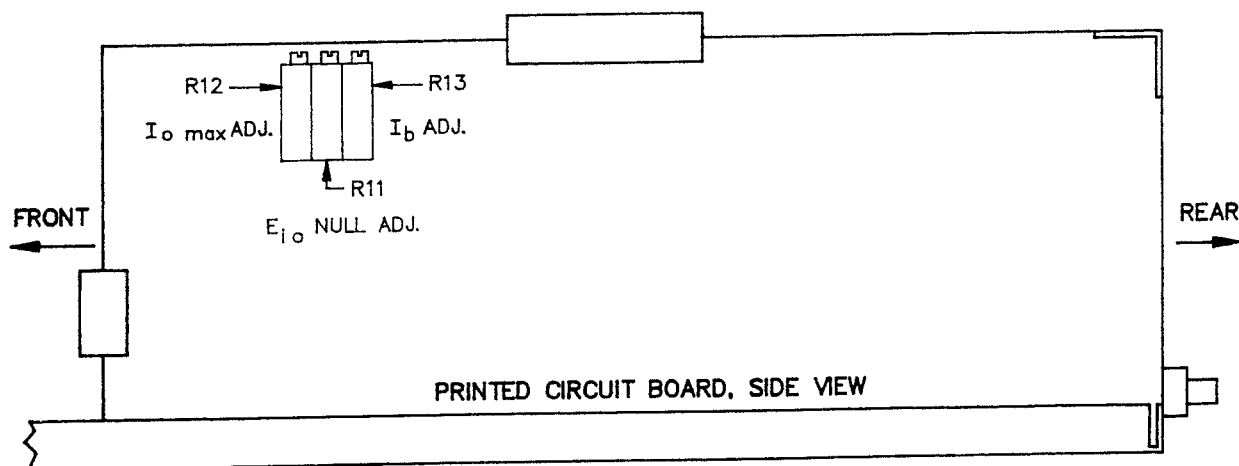

FIGURE 2-1 LOCATION OF INTERNAL CONTROL
- c) INTERNAL ADJUSTMENTS AND CALIBRATIONS: Refer to FIG 2-1 and TABLE 2-1
- c) With S1 "open", and  $R_{VC} = 5K$  ohms for example, approximately 5 volts will be read-out on M1. Adjust " $I_b$  Adj." (control current calibration, R13, see FIG. 2-1 for location) until exactly 5 volts are read-out on M1.
- d) Close S1 and note deviation from zero on M1 (approx. 2 to 8 mV negative). Adjust " $E_{io}$  null" (zero adjustment, R11, see FIG. 2-1 for location) until exactly zero volts are read-out on M1.